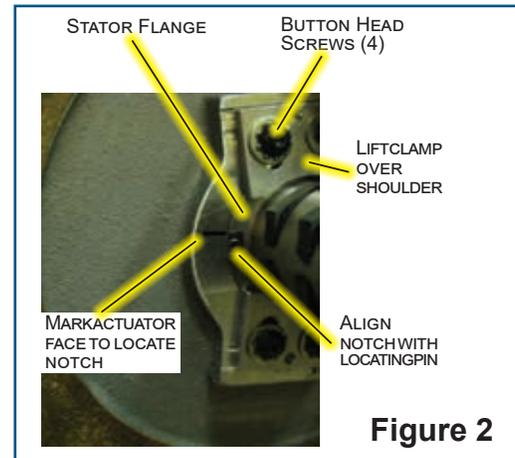

Figure 2
5. Use a fine point marker to note the position of the control end relative to the drive body. Mark the drive's face immediately adjacent to the top of the notch (see Fig. 2).
6. Loosen (do not remove) the four mounting clamp button head screws (3/8" long) and slide the top clamp up over the edge of the shoulder in the body, immediately above the stator flange (see Fig. 2). Snug one of the screws to hold the clamp up while replacing the assembly. Allow the bottom clamp to hang by the screws.
13. Slide the new assembly onto the shaft, turning the coupling (if necessary) to align the assembly with the shaft. Align notch in the stator with the locating pin situated to the left of the control end shaft (see Fig. 2).